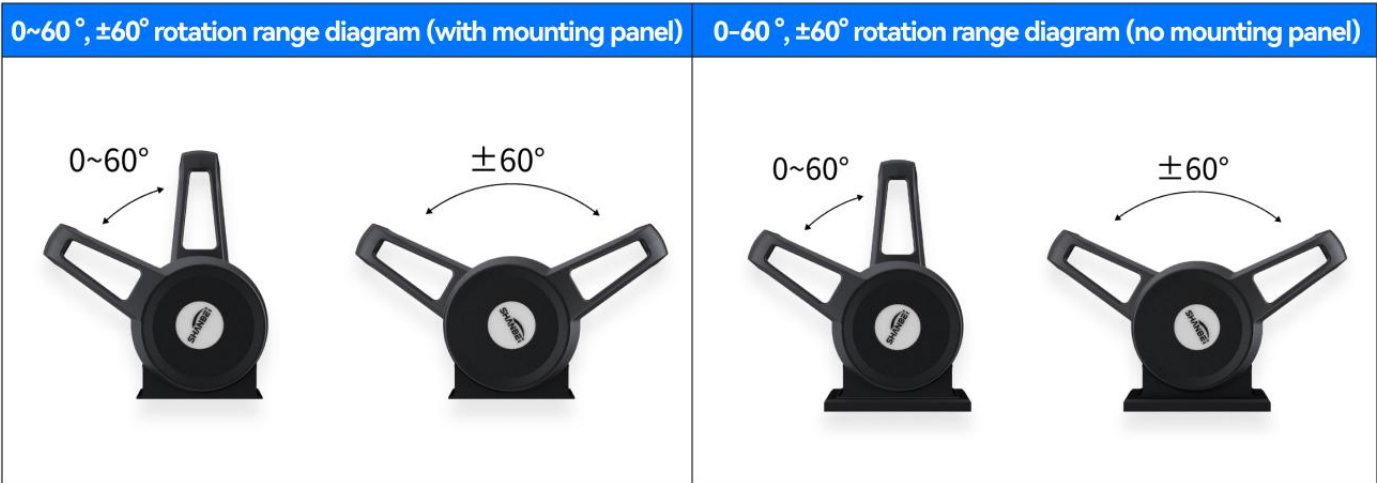

Figure 2.4
3. The rotation range of the handle can be $\pm 60^\circ$, $0\sim 60^\circ$, the default is $\pm 60^\circ$, as shown in Figure 2.4.